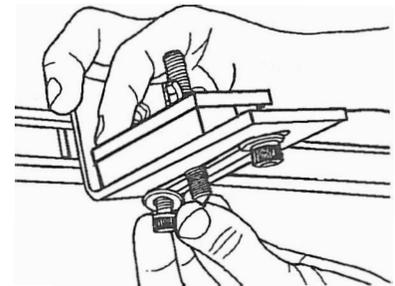

Fig. A-37
**31.** Insert the pointed screw (3) down through a bracket. Re-attach the cap screws (8) and washers (7), as shown in Fig. A-37.